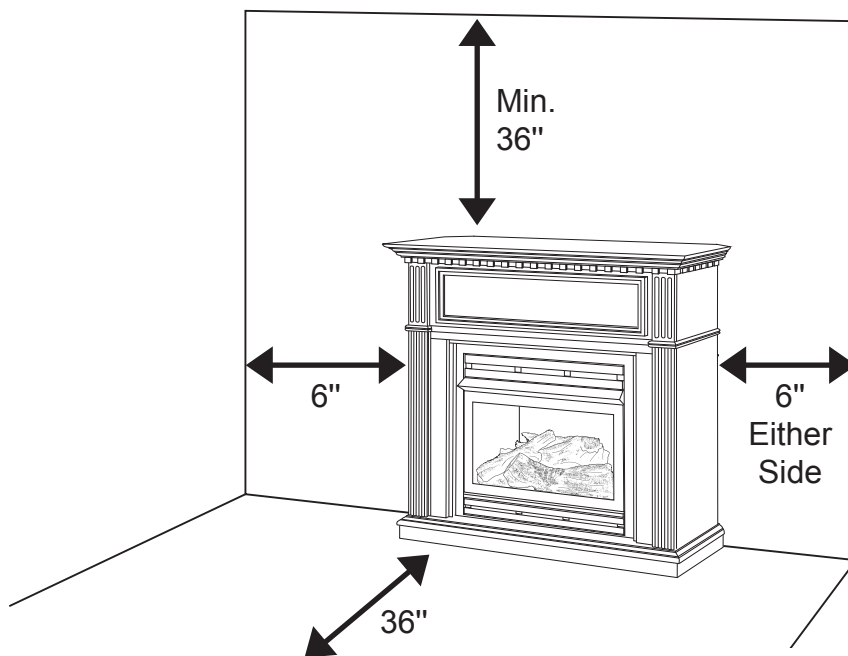

Fig. 6 - Minimum Clearance to Combustible Material
IMPORTANT: Maintain the minimum clearances shown in Figure 6 on page 12. If you can, provide greater clearances from floor, ceiling and adjoining wall.
- A. Clearances from the side of the fireplace cabinet to any combustible material and wall should follow diagram in Figure 6.
The installer must supply an external regulator for liquid propane. The external regulator is provided by the gas supplier for natural gas. The external regulator will reduce incoming gas pressure. You must reduce incoming gas pressure to between 11 and 14 in. of water column for propane and between 5 and 10.5 in. of water column for natural gas. If you do not reduce incoming gas pressure, heater regulator damage could occur. Install external regulator with the vent pointing down as shown in Fig. 6. Pointing the vent down protects it from freezing rain or sleet.